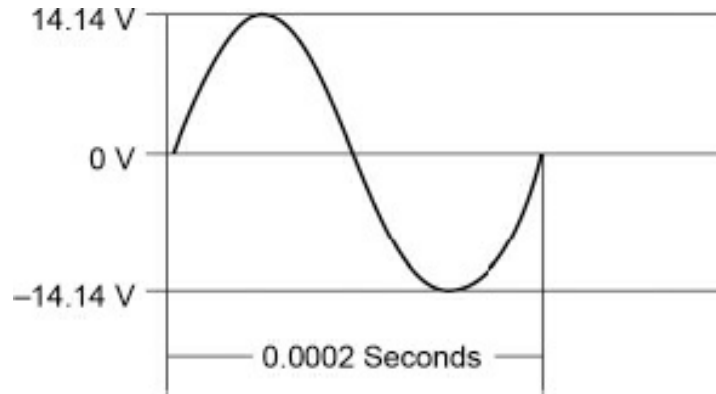

Figure R2-1.
1. Answer questions A through E based on Figure R2-1.